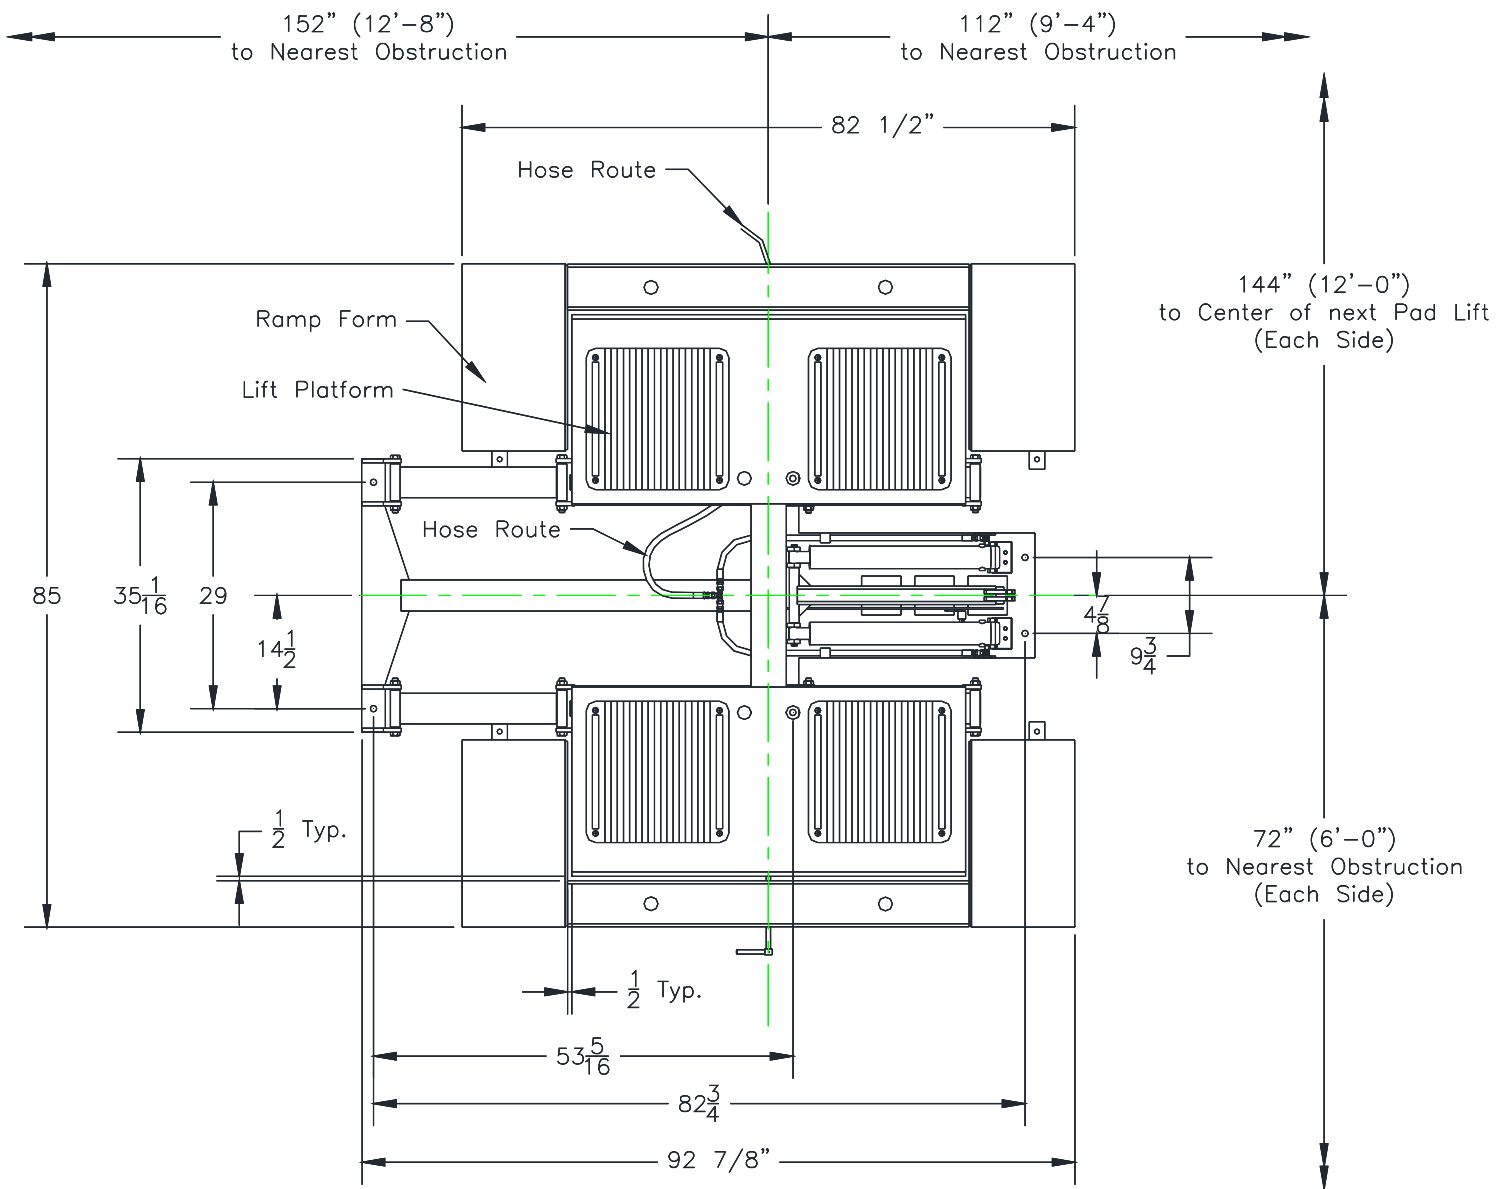

Fig. 1A General Surface Mount Layout
2. Place lift and ramps in desired location. The ramp should be located to allow a minimum 1/2" clearance around the lift platform, See **Fig.1A**.